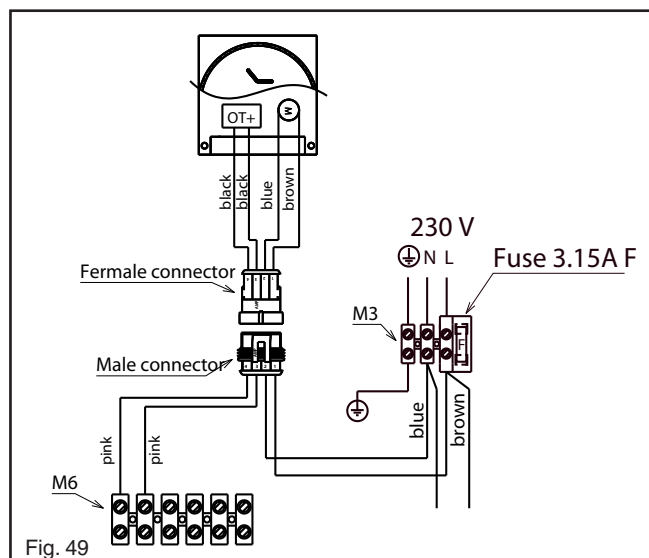

Fig. 49
- OT+ control (fig. 49), please contact Vokera technical for detailed instruction on specific OT+ controls.